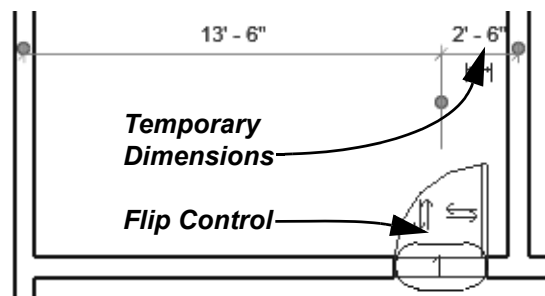

Figure 2–28
6. Select the door. Use temporary dimensions to move it so that it is **2'-6"** from the right interior vertical wall. If required, use controls to flip the door so that it swings into the room, as shown in Figure 2–28.